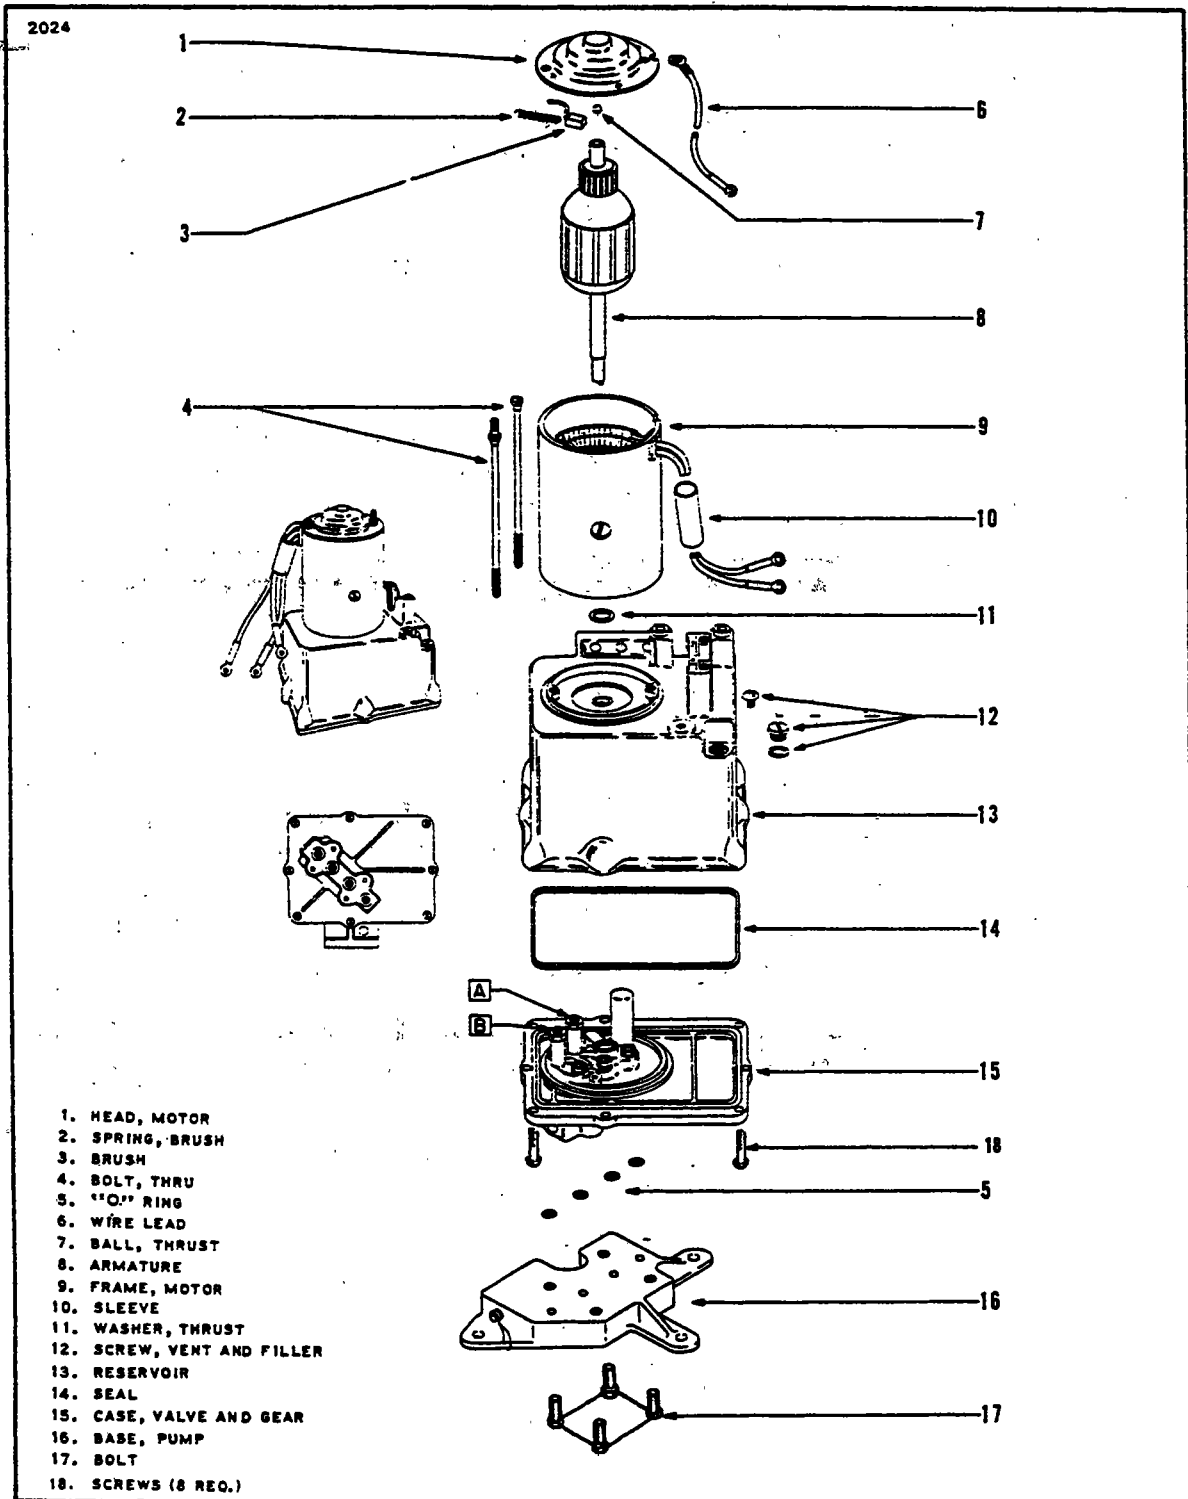

Figure 6-3. Hydraulic Pump/Reservoir, Exploded View
**6-6. DISASSEMBLY OF HYDRAULIC PUMP.** (Refer to Figure 6-3.) After the hydraulic pump has been removed from the airplane, cap or plug all ports and clean the exterior of the pump with a dry type solvent to remove accumulated dust or dirt. To disassemble any one of the three main components of the pump, proceed as follows:
- a. The base (16) of the pump may be removed from the case (15) as follows:
1. Cut the safety wire and remove the bolts (17) with washers that secure the base to the pump case.
#### 6-8. ASSEMBLY OF HYDRAULIC PUMP. (Refer to Figure 6-3.)
5. Connect the blue lead to the positive terminal of the power supply. Pump should operate and the high pressure gauge should indicate between 1600 to 2000 psi. (Should the pressure be incorrect, adjust valve "A", Figure 6-3, in pump reservoir.)
7. Connect the green lead to the positive terminal of the power supply. Pump should operate in reverse, dropping the high pressure gauge to zero and the low pressure gauge should indicate between 500 to 800 psi. When the green lead is disconnected, both pressure gauges should indicate zero psi. (Should the pressure of 500 to 800 psi be incorrect, adjust valve "B", Figure 6-3, in pump reservoir.)